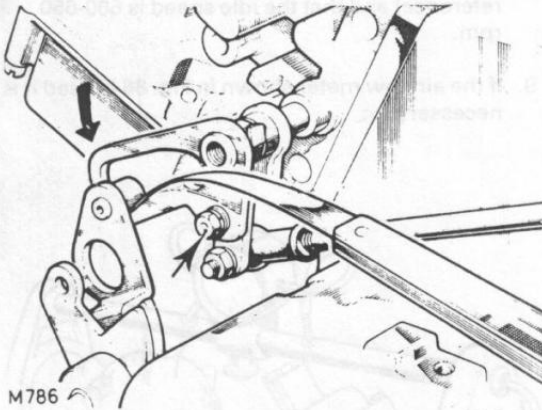

FIG. 87
11. On the left hand carburettor, manual transmission only, place a 0,15 mm (.006 in.) feeler between the underside of the roller, as shown in **Fig. 87**.